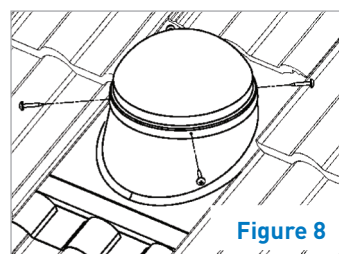

Figure 8
- Fix the dome securely into place with the fixing screws provided into the pilot holes drilled into the mounting unit. Do not overtighten (Figures 8 & 9).